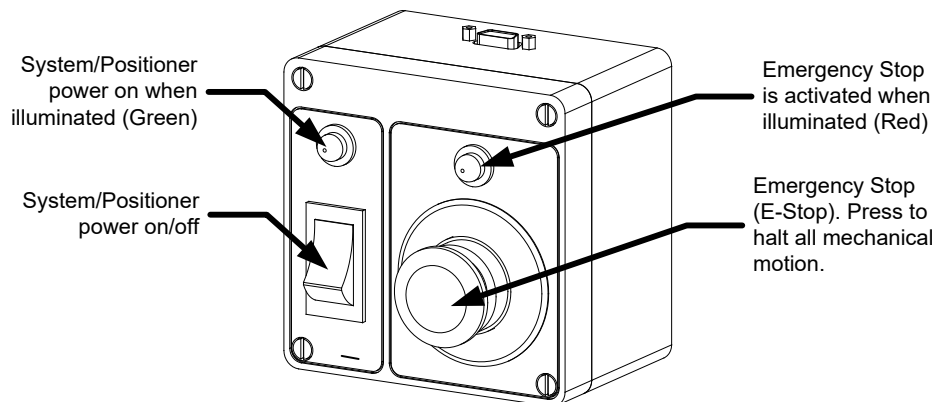

Figure 13. Power Box in Control Room
4. Power up the system. On the remote power panel (located in Control Room), hold the toggle switch in the **ON** ("I") position for approximately 1 second until the green power lamp illuminates (**Figure 13.**).